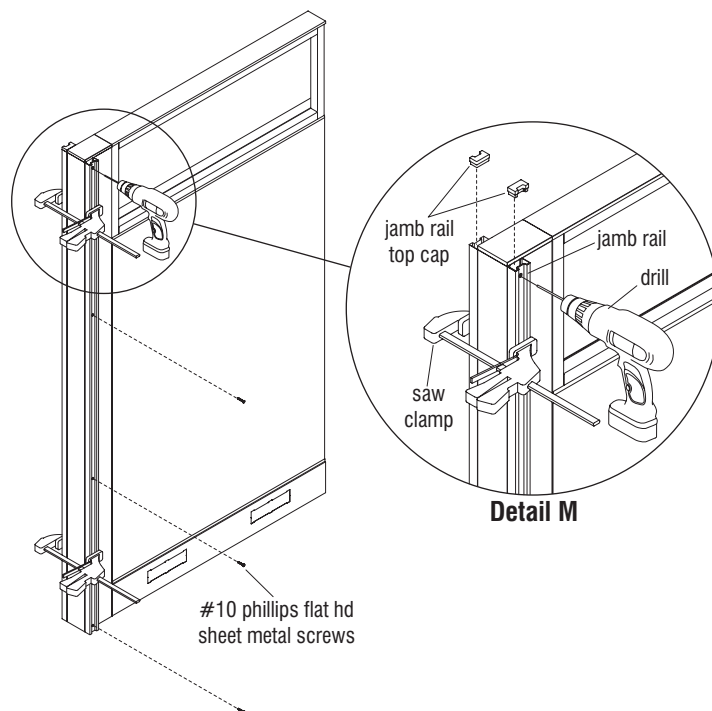

Figure 23
3. While the jamb rails are clamped securely and straight, use a  $\frac{1}{8}$ " drill bit and bore holes through the jamb post using each of the four jamb rail holes at both jamb rails as guides for drilling (Figure 23, Detail M).
4. Install four #10 Phillips flat head sheet metal screws to secure each jamb rail to the jamb post. Do not over-tighten screws (Figure 23).
4. Check “plumb” of the rolling door to the jamb rail by rolling the door to the jamb rail then confirm that the door contacts it in a square and even manner. If necessary, adjust the door angle by loosening one or both wheels and moving the wheels up or down, then re-tightening in the new position (Figure 23). Do not remove the wheel.